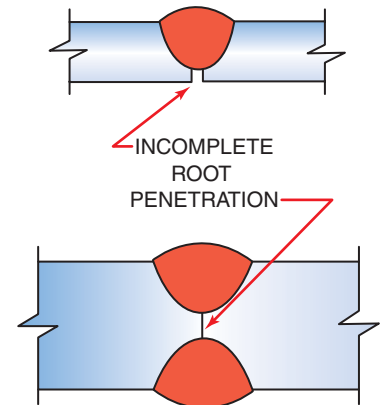

Figure 9.7 Incomplete root penetration
- improper welding technique—The most common cause is a mis-directed arc. Also, the welding technique may require that both starting and run-out tabs be used so that the molten weld pool is well established before it reaches the joint. Sometimes a failure to back-gouge the root sufficiently provides a deeper root face than allowed for, Figure 9.7.